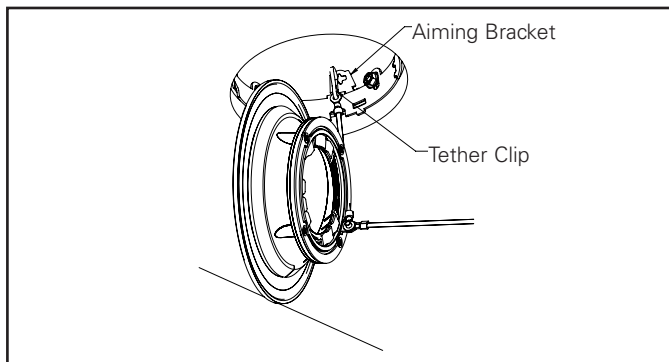

Figure 18.
5. Attach trim tether clip to aiming bracket (Figure 18).